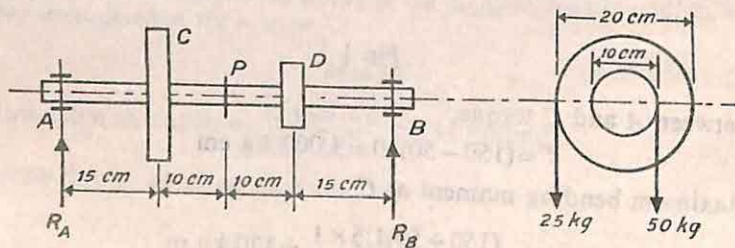

Fig. 2
13. In Fig. 2, *C* and *D* are two wheels keyed to a shaft 2 cm diameter. The wheels are acted on by tangential forces as shown, so that the torque transmitted is 250 kg cm. The shaft is carried in bearings at *A* and *B*. Determine the shear stress due to torque, longitudinal stresses due to bending, and the principal stresses, for the top point of the cross-section at *P*.